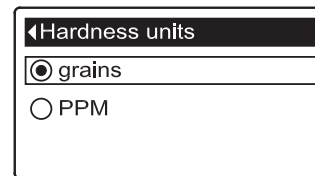

FIG. 52
1. From any of the rolling status screens, press the SELECT (O) button to display the **Main menu**.
3. Press the SELECT (O) button to display the User preferences menu.
5. Press the SELECT (O) button to display the Hardness units menu (See Figure 52).
6. If the desired hardness unit already has a black dot next to it (See Figure 52), go to Step 7. Otherwise, press the DOWN (▼) or UP (▲) buttons to scroll to the other hardness unit, then press SELECT (O) to choose it.
7. Press the SELECT (O) button. The display will go back to the User preferences menu.